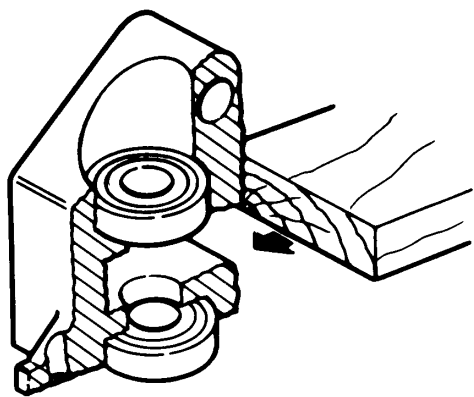

Figure 5
If you remove the bearing cups and there is no press equipment for installation, use a soft hammer to tap the cups into position. When resetting the cups, insert a support in the gear cavity to prevent its deformation under pressure. (See Figure 5.)
8. Replace worn or broken parts. If the bearing cups need replacement, see NOTE and Figure 5 at left. Assemble the rear shaft as follows:
10. Insert the top woodruff key (3130) in the shaft and install the sprocket gear (3180) on it. Gently tap the sprocket into position using a soft mallet.
13. Install the second woodruff key (3130) on the shaft.
15. Insert the shaft through the top bearing cup into the gear housing, through the shaft gear (3100), and through the bottom bearing cup. Install the shaft gear over its key (3130), tapping lightly with a soft mallet to seat it.
17. Install the cutter wheel or drive roller and the last woodruff key (3130) on the shaft.